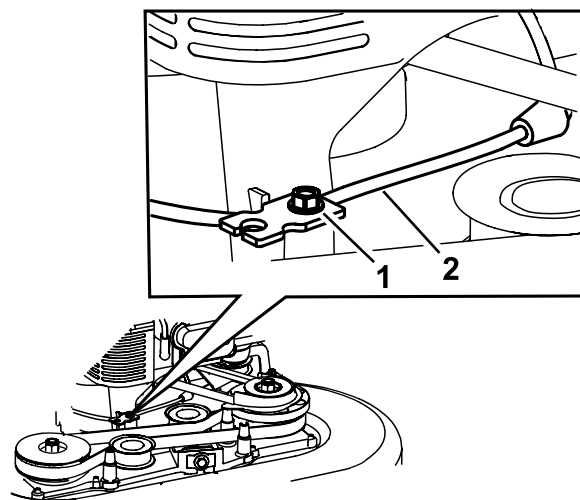

Figure 45
5. Loosen the cable-clamp screw (Figure 45).